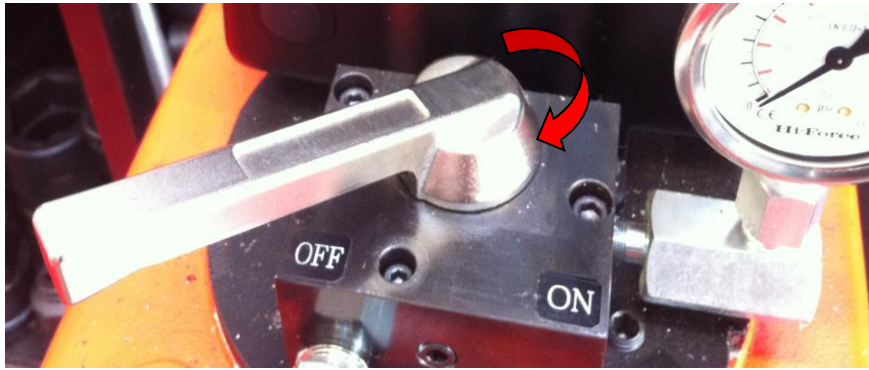

Fig 6.1 – closing release valve lever.
1. Close manual Valve Handle by turning clockwise 45°. See Fig 6.1.
1. Turn manual valve handle to left hand side position (45° max). Press 'ON' button to advance cylinder. (Flow to port A. Port B returns flow to the reservoir). See Fig 6.1.